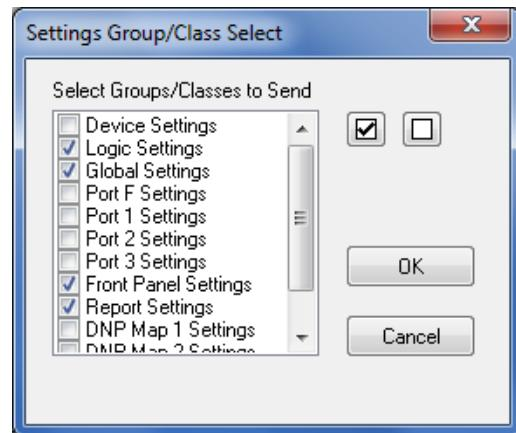

Figure 2.8 Send Settings to the Connected Device
Step 11. Select **File > Send**. From the selection dialog that displays, choose which settings groups you want to send to the device, as in *Figure 2.8*. Once you have completed making your selections, click **OK**.
After you click **OK**, QuickSet will begin sending the selected settings groups to the device. If an error occurs during the send process, an error dialog displays. To view additional information on the settings QuickSet sends, open the Terminal window after clicking **OK** in *Figure 2.8*. You will see the files being sent and when the transfer is complete.